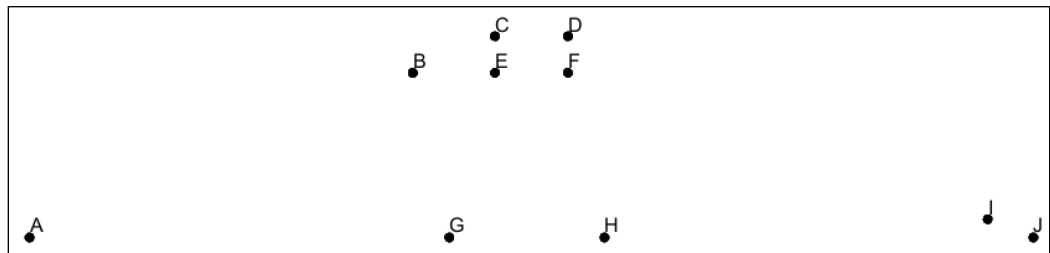

Figure 3 Points created in the profile lines coverage
8. Click **Frame Image**  to center the view on the new points (Figure 3).